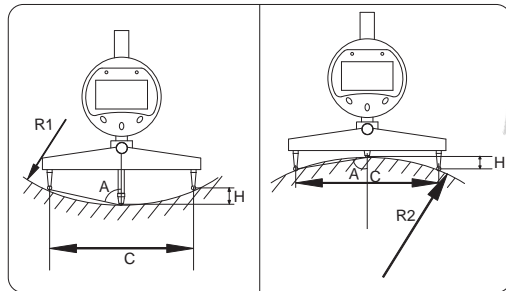

fig.1
1. The gauge can be used to measure radius(R1, R2), angle A and chord height C of internal and external arcs(fig.1). The display as fig.2.